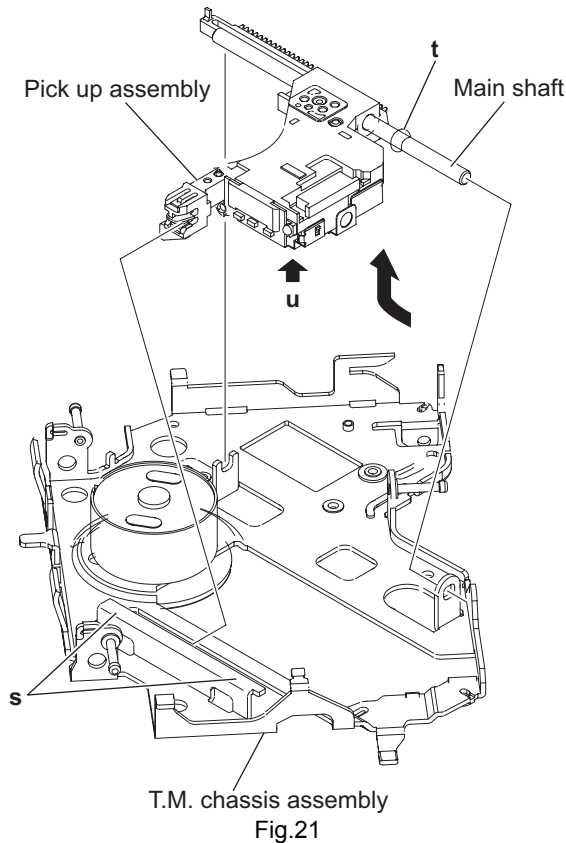

Fig.21
### 3.2.13 Removing the pickup assembly (See Fig.21 to 22)
- Do not touch section **u** on the pickup assembly. (See Fig.21 and 22.)
- From the bottom side of the T.M chassis assembly, move the pickup assembly in the direction of the arrow from the T.M chassis assembly. (See Fig.21.)
- Pull out the main shaft. (See Fig.21.)
When attaching the loading motor, apply grease to the sections **s** and **t**. (See Fig.21.)